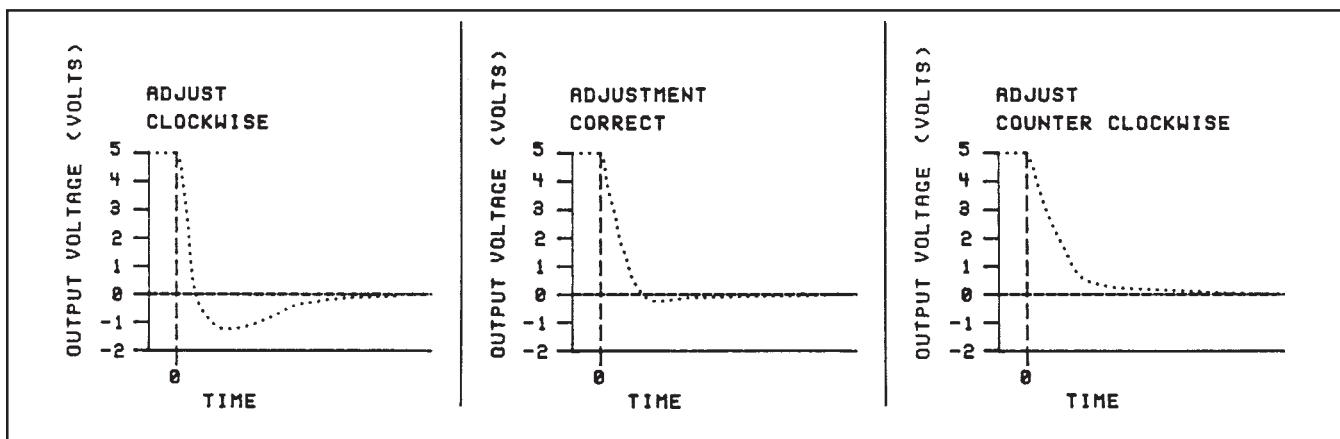

Figure 3-4 Fast Response Adjustment
- c. The behavior of the output signal during the transition between 100% and 0% flow indicates the adjustment required of the anticipate potentiometer. Refer to Figure 3-4.